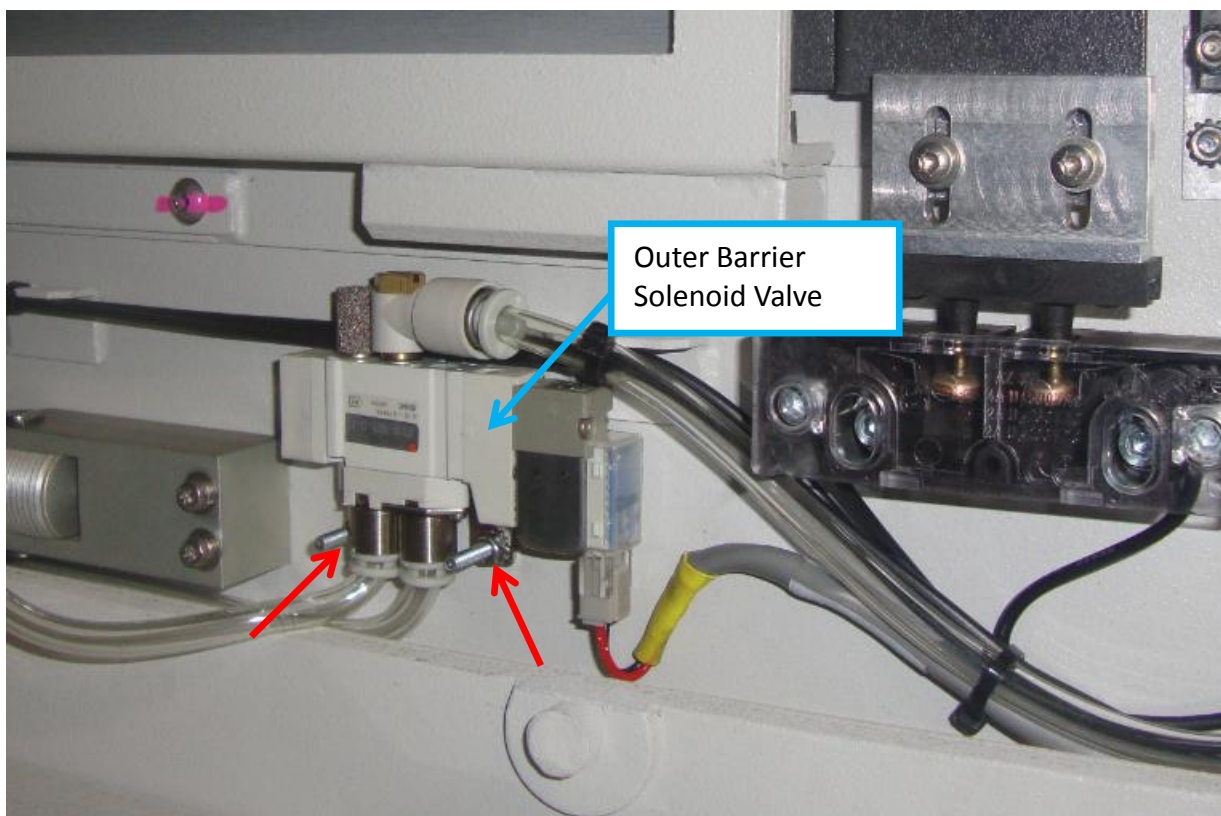

Figure 6
8. Loosen 2 x Nut and remove entire Outer Barrier Solenoid Valve as below Figure 6.